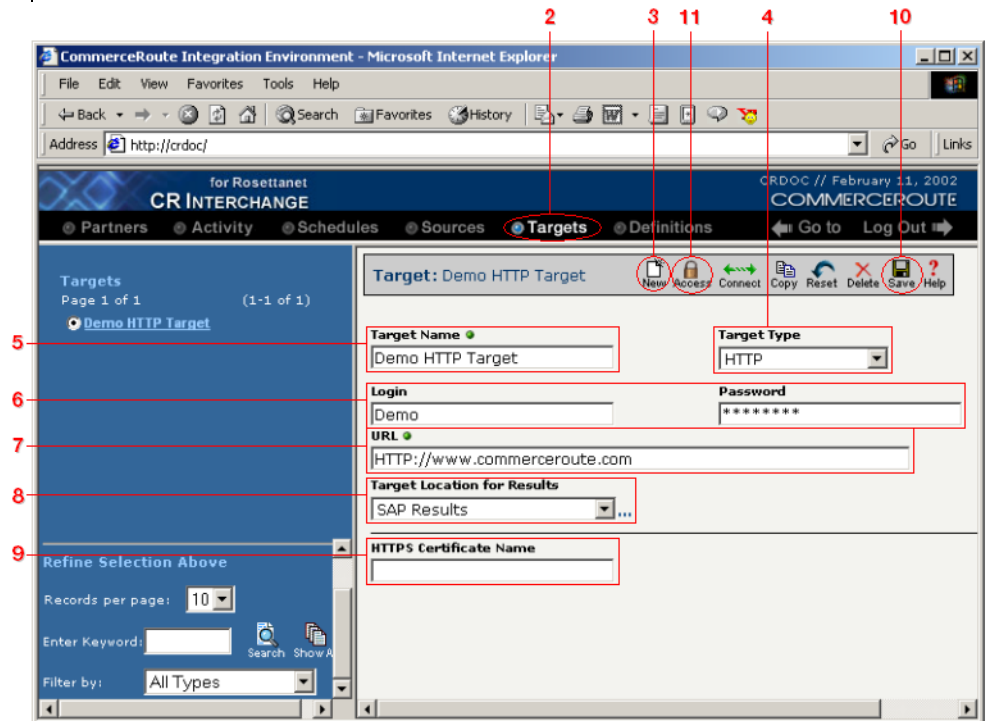

Figure 8-5. Follow the steps listed above to successfully define a new HTTP target.
Follow these steps to create a new HTTP target definition. Each step is marked in Figure 8-5 below.
- ❶ Log in to the CR Interchange environment (see “Log In to the Tour” on page 2-2 for details).
- ❷ Click on the **Targets** button in the main navigation bar at the top of the screen.
- ❸ Click on the **New** button in the toolbar to create a new target definition.
- ❹ Select “HTTP” from the **Target Type** drop-down menu.
- ❺ Enter a unique name for your target definition in the **Target Name** field.
- ❻ (Optional) Enter an appropriate login and password for the Web server in their respective fields.
- ❼ Enter a valid URL address in the **URL** field. (The address can be either an HTTP or an HTTPS URL.)
- ❽ (Optional) If you want to store the response from the Web server in another (pre-defined) target, select the appropriate target's name in the **Target Location for Results** field.
- ❾ (Optional) If you want to use Secure HTTP (HTTPS) and you want to provide a client certificate for authentication purposes, enter the name of the security certificate in the **HTTPS Certificate Name** field.
- ❿ Click the **Save** button in the toolbar. Compare your definition to that shown in Figure 8-5 below.